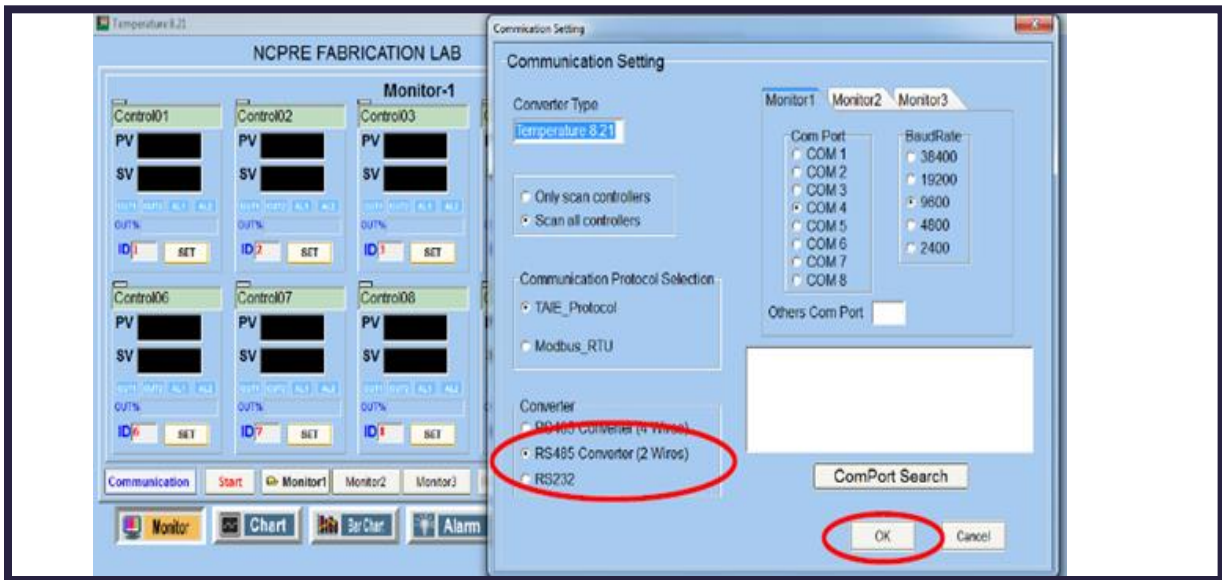

Figure. 16
4. "Communication Settings" window will pop up. Check whether the data is as follows (Figure. 16).